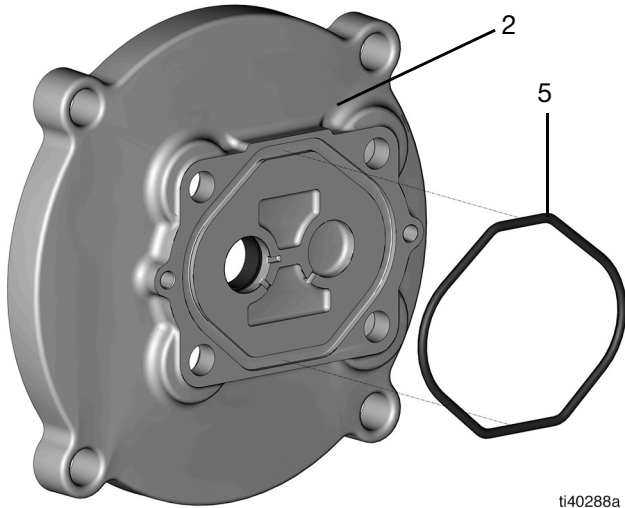

FIG. 12
2. Put the o-ring (5) into the groove on the adapter plate (2) cover (FIG. 12).